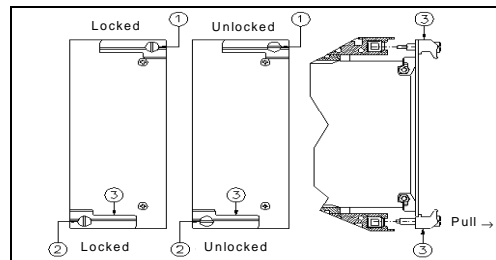

FIGURE 2: LATCH MECHANISM FOR REMOVAL OF RELAY FROM CASE
To remove the relay from its case, refer to Figure 2. The relay may be removed from its protective case by turning with a flat bladed screwdriver the locking screws ① and ② on the front panel latches ③ so that the slot on the screw is parallel to the ground. The latches may then be pulled from the inside edge to release the relay. Carefully pull on the latches to remove the relay from the housing.